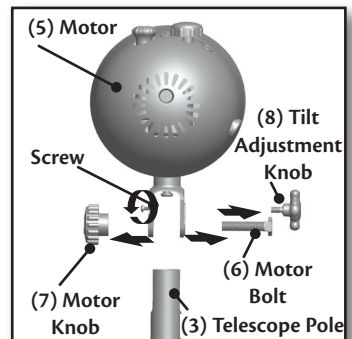
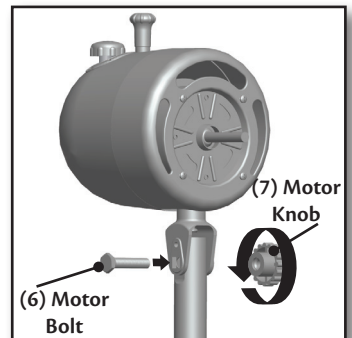

Figure 8.
Figure 9.
4. Set the Motor(5) on top of the Pole(3), Figure 8., and Secure using the Motor Bolt(6) and Knob(7). Retighten the screw above the motor knob in the slot to secure motor. Figure 9.